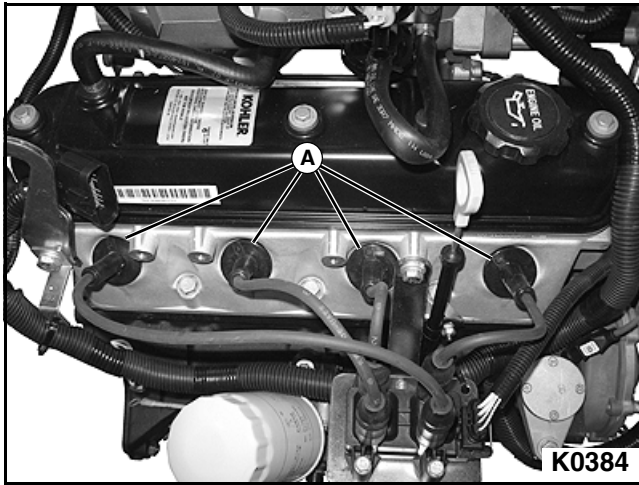

Figure 5-9
2. Use a cloth to wipe dirt and oil away from the area around each of the four spark plug wires (A). **See Figure 5-9.**